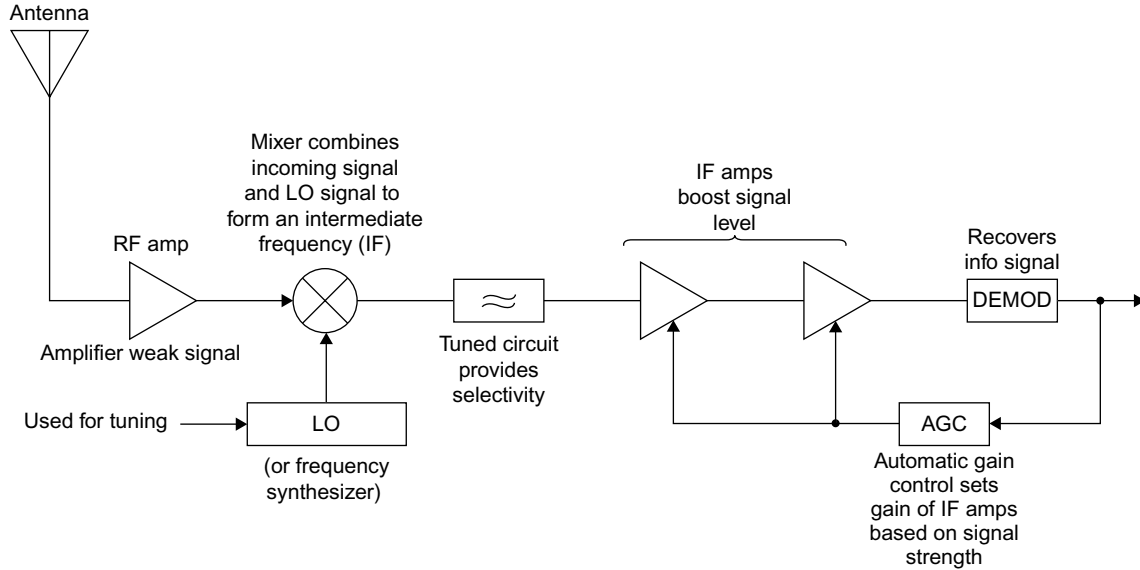

FIGURE 7.12 Superheterodyne receiver. LO, local oscillator.
Figure 7.12 is a block diagram of a superheterodyne receiver. The incoming signal is usually amplified by an *RF input amplifier* often called a *low-noise amplifier* (LNA) and then fed to a circuit called a *mixer*. The mixer is a frequency-translation circuit that converts the incoming signal, regardless of its frequency, along with its modulation to a lower intermediate frequency (IF). This allows the receiver to use a fixed-frequency amplifier system where most of the gain and selectivity of the receiver is achieved. The mixer takes the input signal and mixes it with a high-frequency sine wave signal generated internally in the receiver by what is called a local oscillator (LO). The LO is usually a frequency synthesizer. The result of the mixing is output signals that are the sum and difference frequencies of the input and oscillator signals. The IF amplifier is normally tuned to select only the difference frequency. Tuning is accomplished by changing the local oscillator frequency. The local oscillator in most channelized receivers is some type of PLL frequency synthesizer.